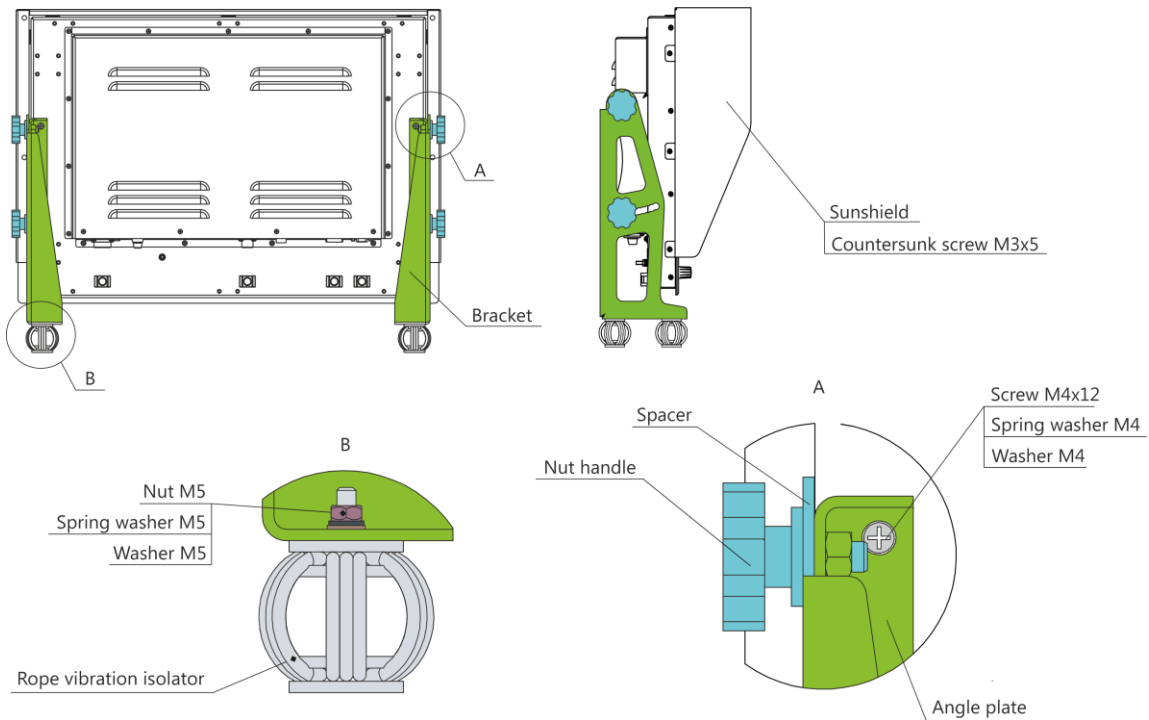

Figure 5 – Desk-top mounting with an adjustable bracket
3) Desk-top mounting with an adjustable bracket (see figure 5) ensures mounting on a surface using adjustable brackets, nut handles and a mounting kit of metal ware.